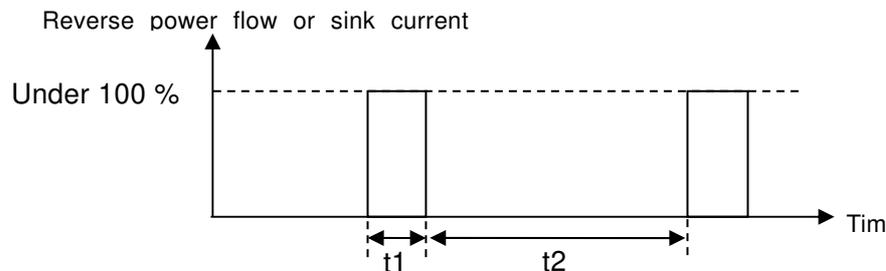

Figure 10-1 Reverse power flow duty or sink time duty
- *6: In the case rated output voltage, 50 Hz or 60 Hz, power factor -1. It may reduce the reverse power flow if ambient temperature is 40 °C or higher. If the output voltage is higher than the rated value, power capacity is limited to 40 % (continuous, 30 °C to 40 °C), 50 % (continuous, lower than 30 °C), and 100 % (reverse power flow time ≤ 180 s, reverse power flow duty ≤ 0.2, 40 °C or lower). About duty, see Figure 10-1. Only for DP series Type R, the reverse power flow is supported.
*16: In the case rated output voltage. It may reduce sink current if ambient temperature is 40 °C or higher. If the output voltage is higher than the rated value, power capacity is limited to 40 % (continuous, 30 °C to 40 °C), 50 % (continuous, lower than 30 °C), and 100 % (sink time ≤ 180 s, sink time duty ≤ 0.2, 40 °C or lower). About duty, see Figure 10-1. Only for DP series Type R, sink current is supported.